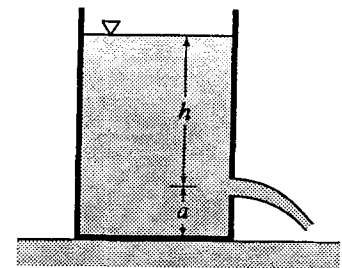

Figure P6.36
- 6.37 An ideal liquid ($\gamma = 9810 \text{ N/m}^3$) flows from a 400-mm-diameter tank as shown in Fig. P6.36. The jet diameter is 80 mm and $a = 250$ mm. If the static coefficient of friction between the tank and floor is 0.6, determine the minimum value of h at which the tank will start to move to the left. The tank itself weighs 500 N.